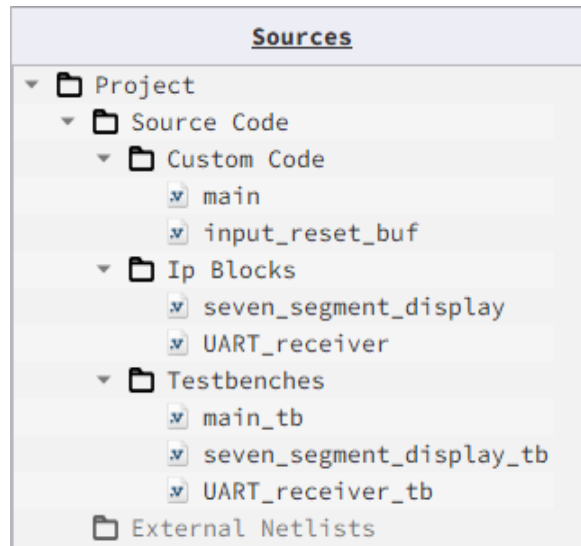

Figure 6: Source files for this project
3. Enter the Verilog code into the HDL editor and save the code using the save button on the top left corner of the FPGA Editor. Make sure that there are five tabs containing different parts of the code. (See Figure 6)